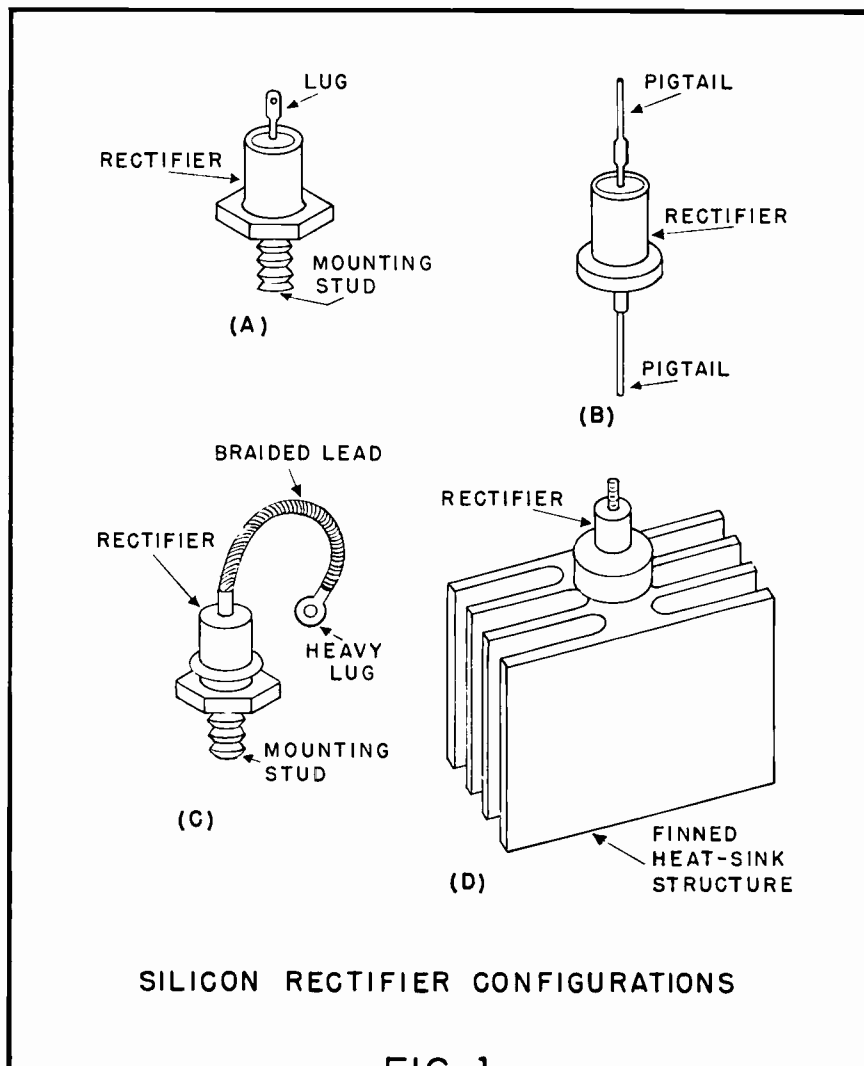

FIG. 1
9. **Good Packaging.** Commercial silicon rectifiers are supplied in enclosed casing, principally of the stud (mounting-screw) and wire-in (pig-tail) types. They often are hermetically sealed. Figure 1(A) illustrates the stud type and Figure 1(B) the pigtail type. Figure 1(C) shows a stud-mounting high-current type provided with a flexible-braid lead and lug for heavy duty. High-current types sometimes are provided with one-piece cooling structures, as shown in Figure 1(D).